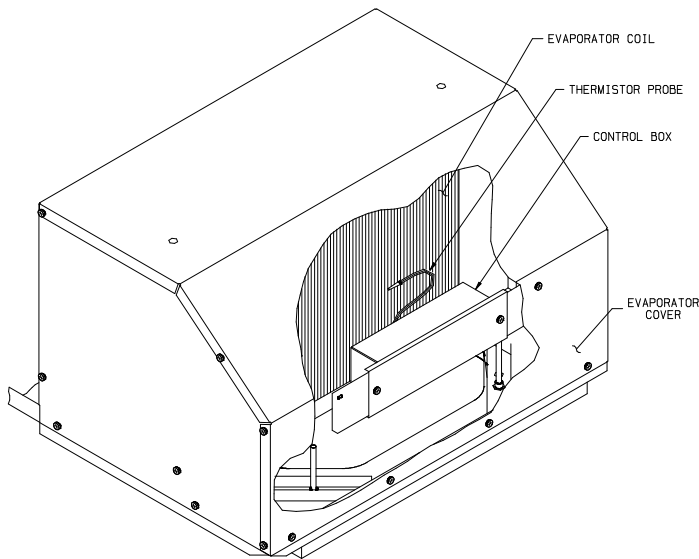
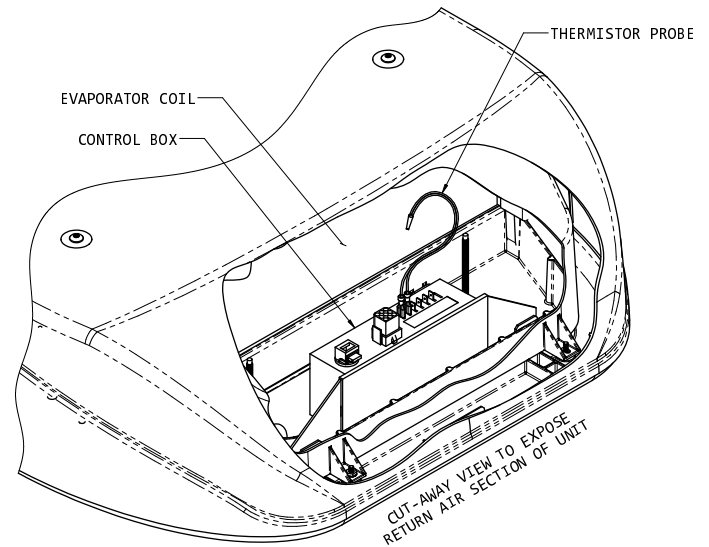

FIGURE 2
FIGURE 3
Insert the freeze circuit thermistor probe into the roof top unit evaporator coil. Verify that the probe is located in the coil properly (See Figure 2). For 47000 series, see Figure 3.
B. Mounting the Wirebox (See Figure 2)
1. Mount control box inside upper unit evaporator cover. Position the control box over the existing screws and secure with two wing nuts provided. The 47000 series control boxes will mount with wires exiting the top (See Figure 3).